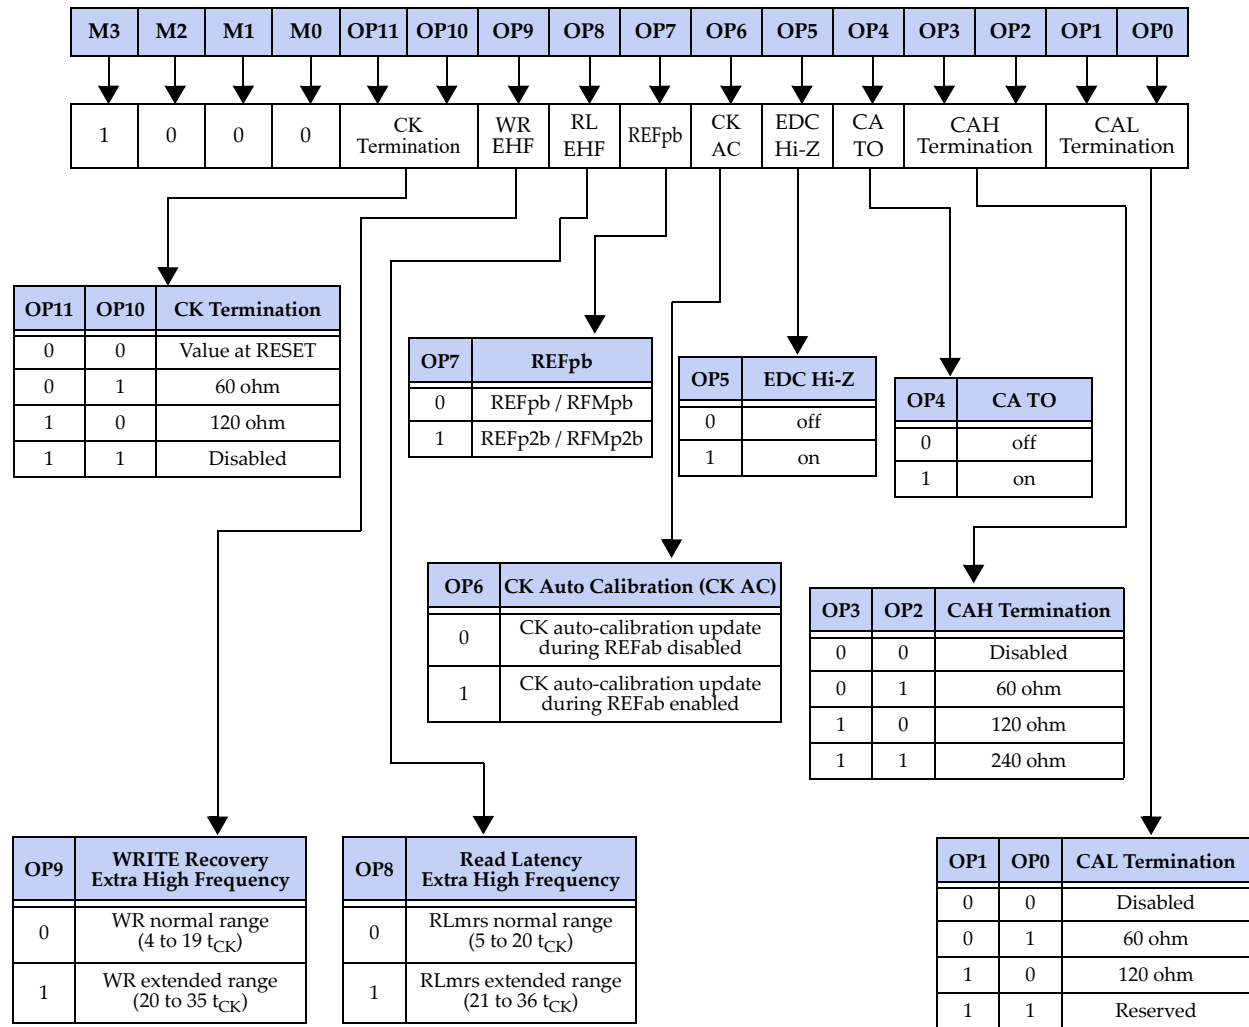

Figure 43 — Mode Register 8 (MR8) Definition
Mode Register 8 defines Clock Termination Override, CAL and CAH Termination, EDC Hi-Z, CK Auto Calibration, REFpb, CK Termination and extensions to Read latency (RLmrs) and Write Recovery (WR) as shown in Figure 43. The register is programmed via the MODE REGISTER SET (MRS) command with M[3:0] = 1000. OP4 of this register is initialized with '0'.